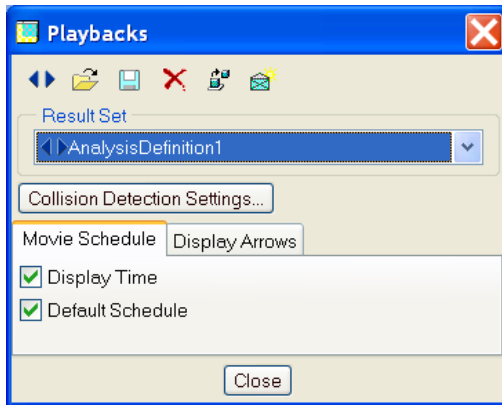
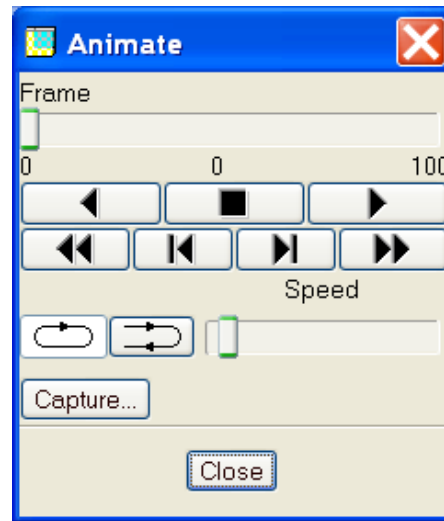

Figure 6a
Figure 6b
- a) Replay results. Select **Analysis > Playback** or click . The **Playbacks** dialog box opens as shown in figure 6a, click . The **Animate** dialog box opens as shown in figure 6b.